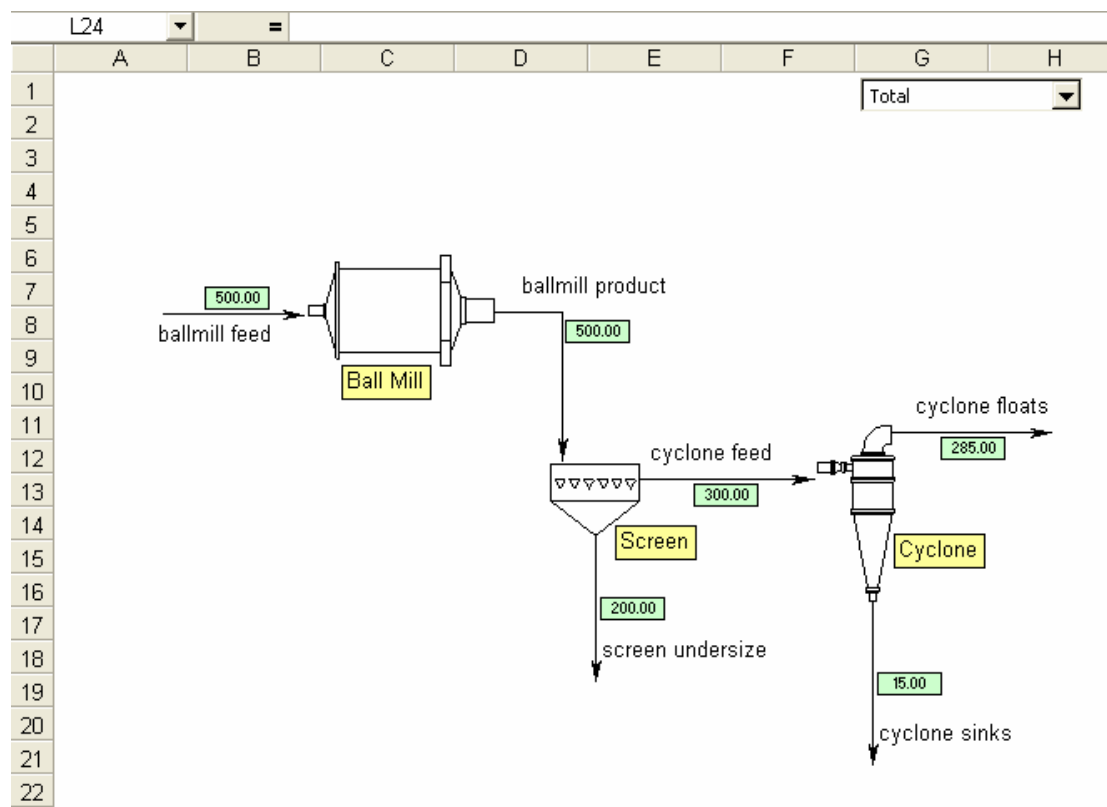

Figure 23: Flowsheet after solving
- 5.3 Check that the mass balance is the same as figure 23 above.